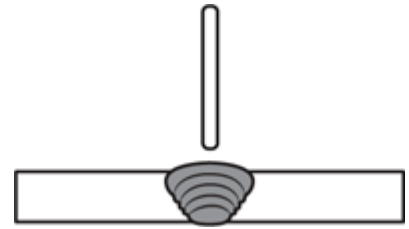

Figure 5 Image for Question 16
16. Which weld position is shown in Figure 5?